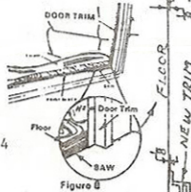

Figure 8
8. Remove door trim and install new trim, cut to fit. On models with raised floor, it may be necessary to cut edge of floor to clear screen door. (See Figure 8). For door clearance cut edge of floor 1/8 inch from new trim.